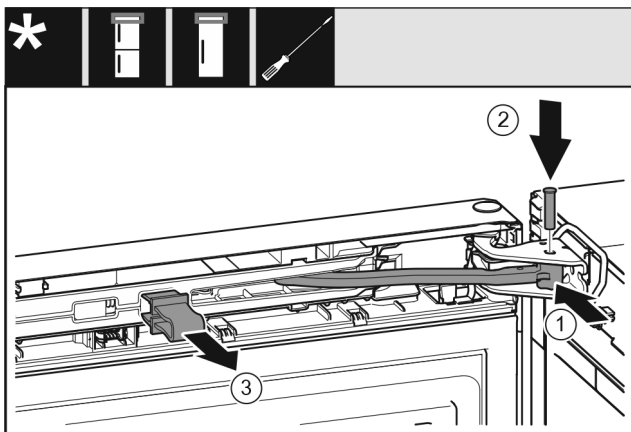

Fig. 27
- ▶ Turn the hinge in the bearing bracket. Fig. 27 (1)
- ▶ Insert the bolt in the bearing bracket and hinge. Make sure that the latching lug is sitting correctly in the groove. Fig. 27 (2)
- ▶ Remove the locking device. Fig. 27 (3)